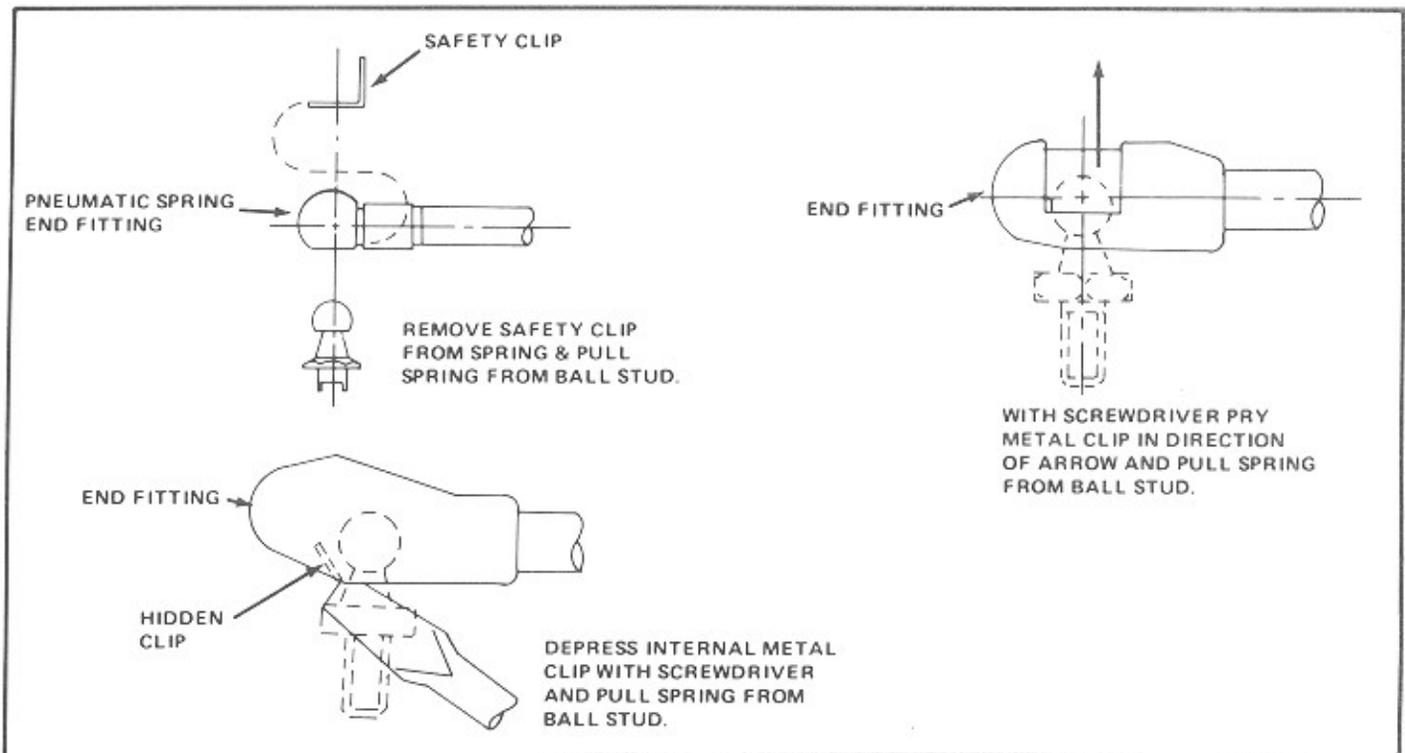

Figure 3-25. Door Spring Fittings
2. While another person keeps the door open, find the appropriate style spring end fitting in Figure 3-25.
3. Follow the example in Figure 3-25.